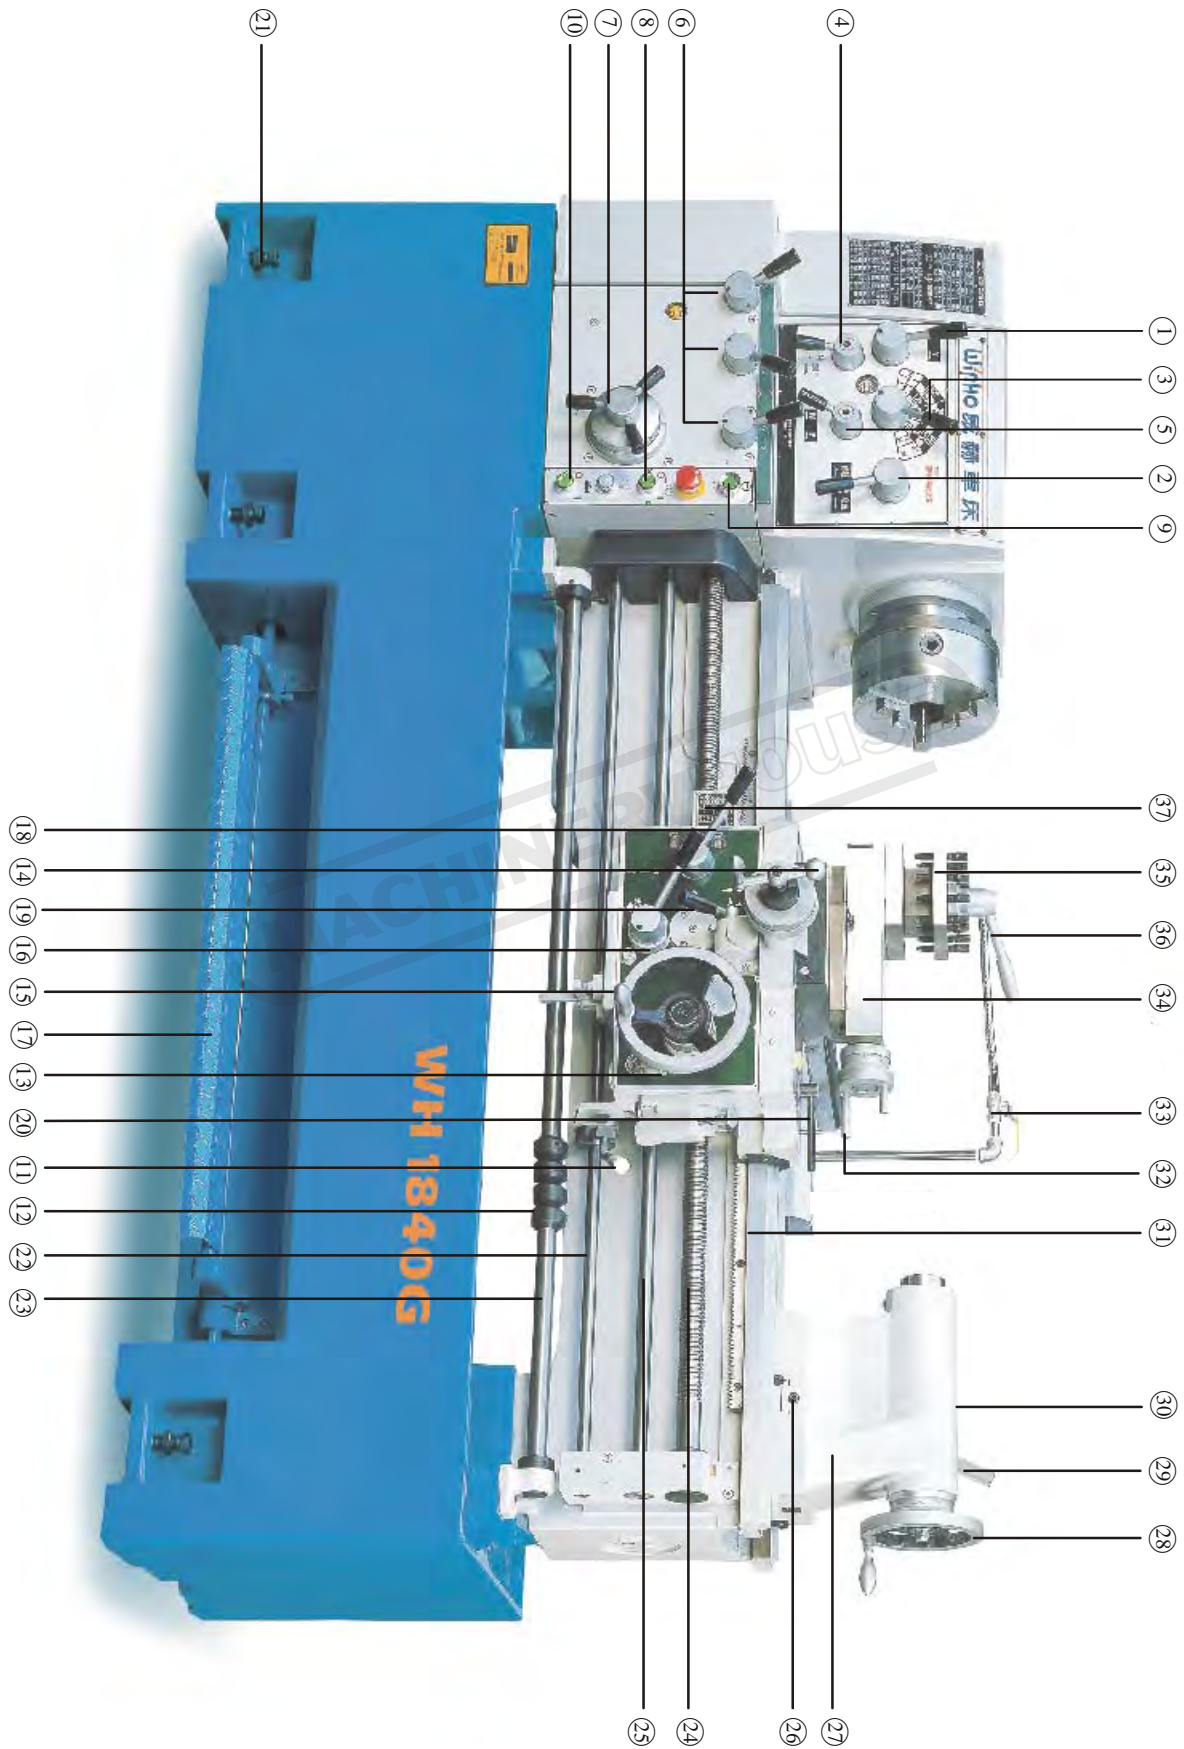

Fig. 1-1
Position the spindle speed H/L shifting lever ② to “L”, the spindle speed shifting selection lever ③ to the very left side, and forward/reverse shifting lever ④ to “N” position. Lift the spindle operation control lever (① of figure 1-1), the spindle will rotate forward, press down the lever, the spindle will rotate reverse; in ‘Neutral’ position, the spindle will stop. For normal forward & reverse revolution, always operate the spindle operation control lever. For emergency stop, step on the foot brake, the spindle operation control lever should push back to ‘Neutral’ position after stepping the foot brake. Afterward, start the spindle.
Turn the coolant supply button (⑩ of figure 1-1). Adjust the adjusting valve for the required coolant flow.